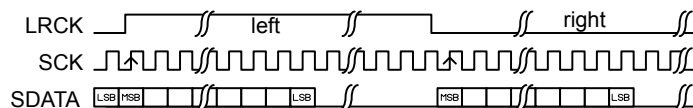

Figure 67: CONFIG.ALIGN set to left justified
- When using left-alignment, each half-frame starts with the MSB of the sample value, as illustrated by Figure 67: CONFIG.ALIGN set to left justified on page 234.